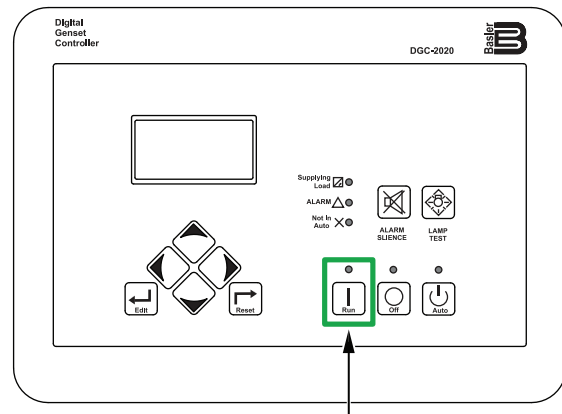

Figure 41. Digital Controller (Run Button)
1. To start the engine, press the **Run** button (Figure 41) on the digital controller.